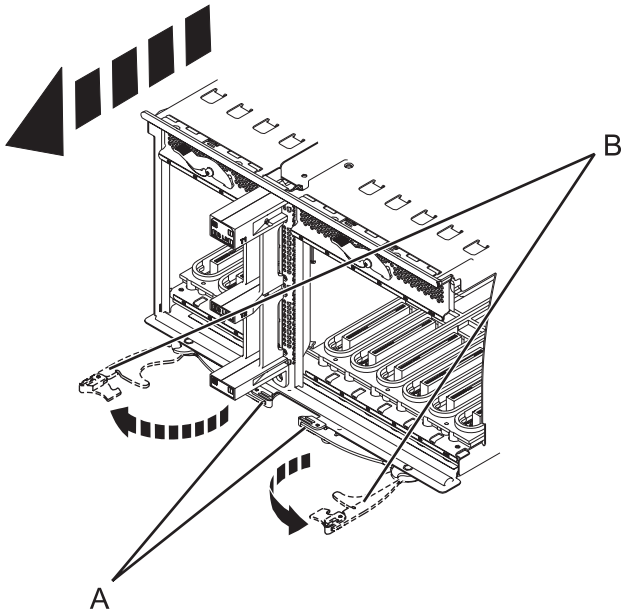

Figure 88. Removing the I/O system board
12. Squeeze the release latches (**A**) and pull the levers (**B**) out away from the system, as shown in Figure 88.